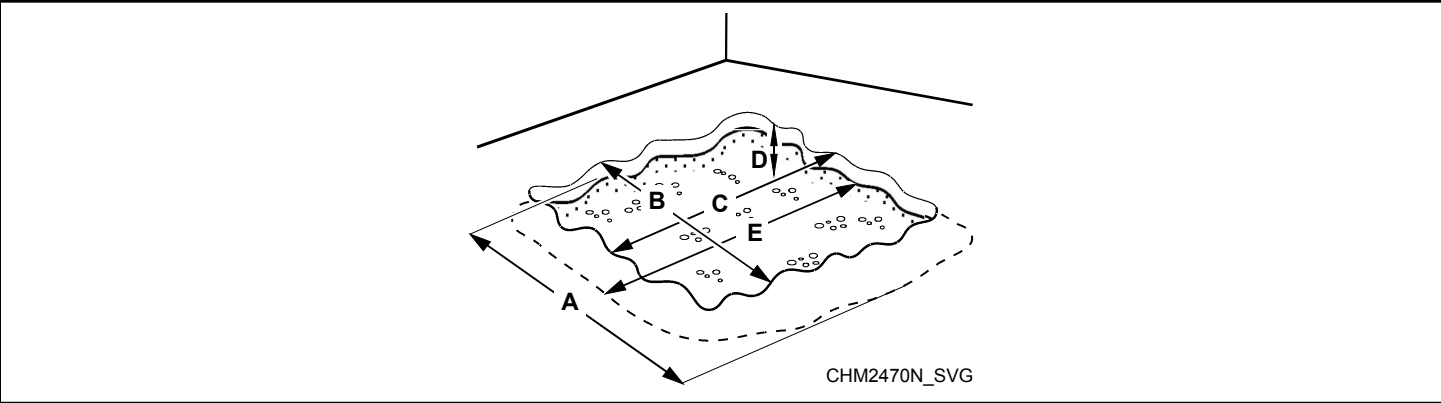

Figure 6
1. Cut a hole larger than the machine base through the existing floor, refer to *Figure 6*.